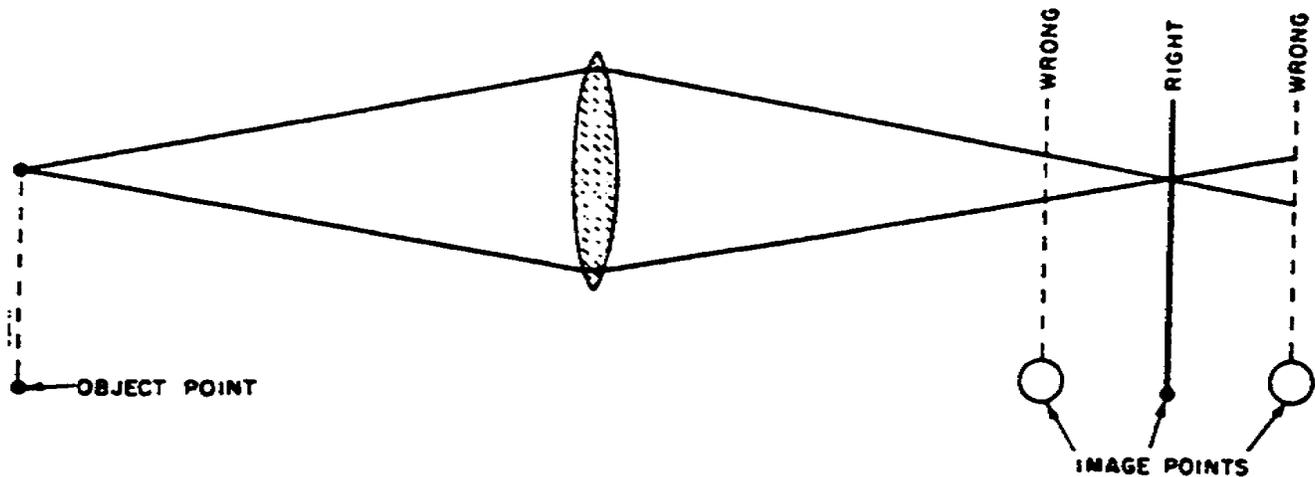

Figure 2-19. Image points nearer to and farther from focal point.
c. If the cone of light is intersected, either in front or behind the focal plane, the light rays form circles rather than points. These are called circles of confusion, (fig 2-19). A circle of confusion is a point of light that has been enlarged due to incorrect focus. It is measured as a fraction such as 1/250, 1/500, or 1/1000 of an inch.
(1) Focusing. Light rays form sharp points on the ground glass or film if the subject is at a correct distance from the lens in relation to the distance between the lens and the film. At this point, the image is sharp and the lens is focused properly, (fig 2-19).